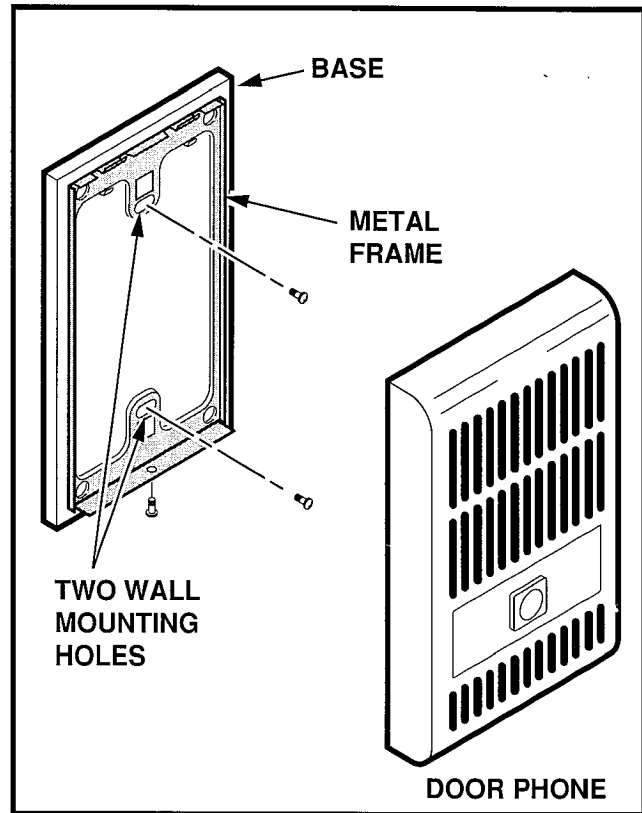

FIGURE 7-8—DOOR PHONE INSTALLATION
3.51 Mount door phones (MDFBs) to a wall or vertical surface in accordance with the following steps (Figure 7-8):